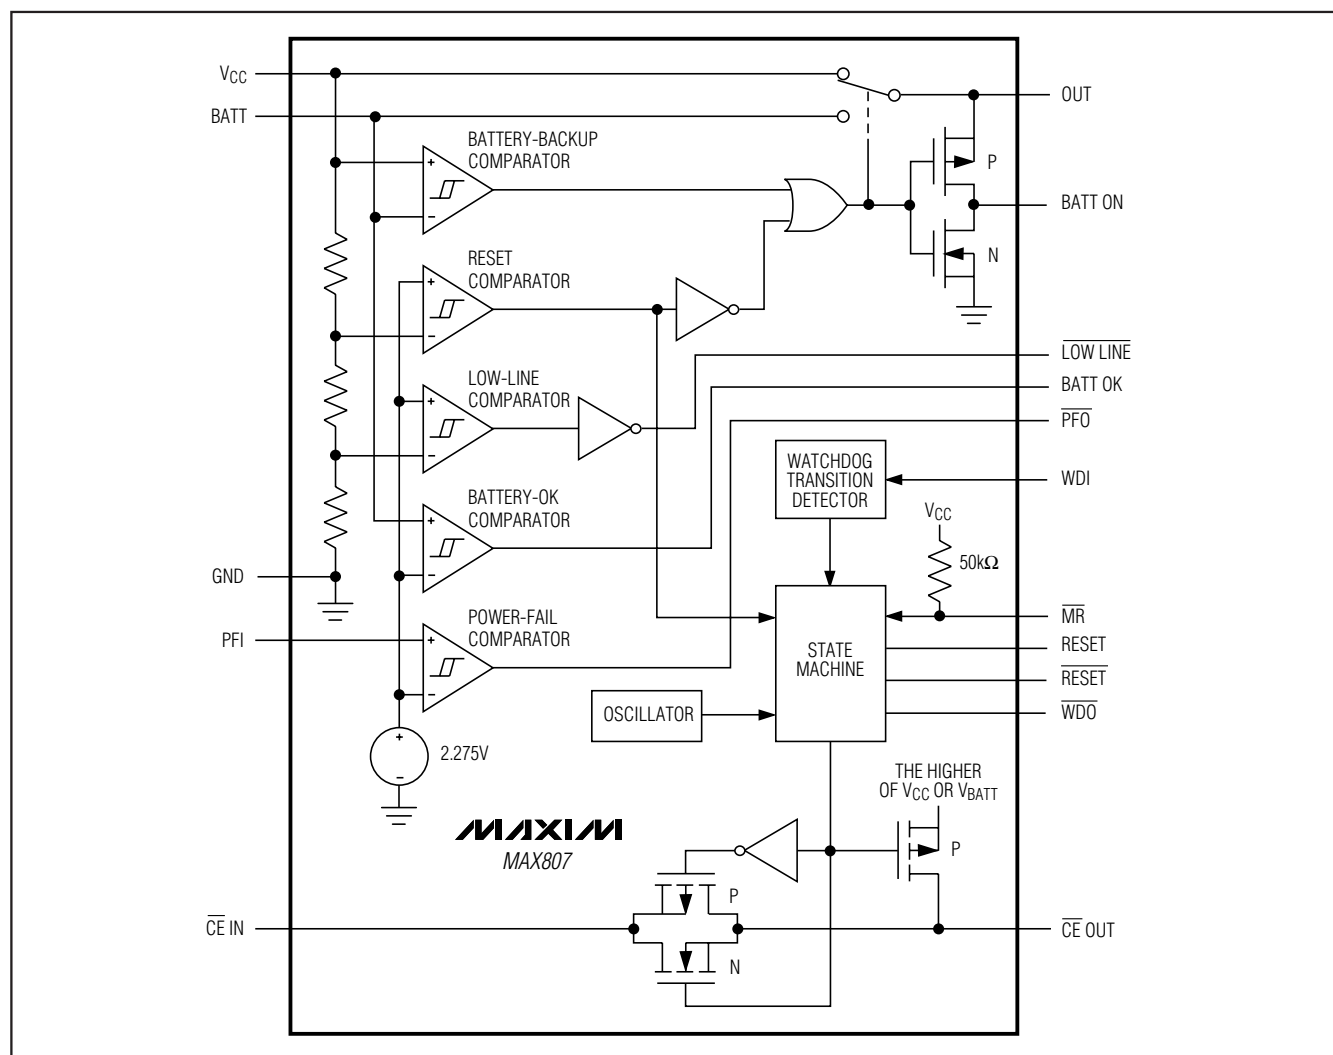

Figure 1. Block Diagram
The MAX807  $\mu$ P supervisory circuit provides power-supply monitoring, backup-battery switchover, and program execution watchdog functions in  $\mu$ P systems (Figure 1). Use of BiCMOS technology results in an improved 1.5% reset-threshold precision, while keeping supply currents typically below 70 $\mu$ A. The MAX807 is intended for battery-powered applications that require high reset-threshold precision, allowing a wide power-supply operating range while preventing the system from operating below its specified voltage range.
The MAX807 provides internal gating of chip-enable (CE) signals to prevent erroneous data from corrupting the CMOS RAM in the event of a power failure. During normal operation, the CE gate is enabled and passes all CE transitions. When reset is asserted, this path becomes disabled, preventing erroneous data from corrupting the CMOS RAM. The MAX807 uses a series transmission gate from the Chip-Enable Input (CE IN) to the Chip-Enable Output (CE OUT) (Figure 1).